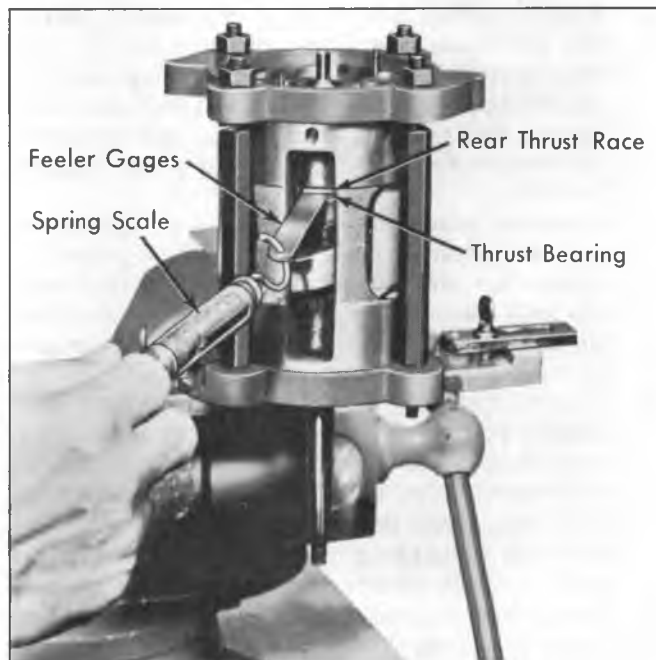

Fig. 24-Checking Clearance Between Rear Thrust Bearing and Outer Thrust Race
14. The next gauging operation is to determine the space between the REAR thrust bearing and the upper (outer) rear thrust race. Use a suitable combination of feeler gauge leaves so that 4 to 8 oz. of force is required to pull gauge free (fig. 24). Select a numbered thrust race to correspond to this feeler gauge reading and place this race in parts tray in the rear thrust race compartment.